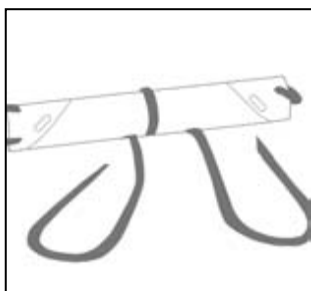

Fig. 2
- Remove the device from pack and place it on the ground (fig. 2).